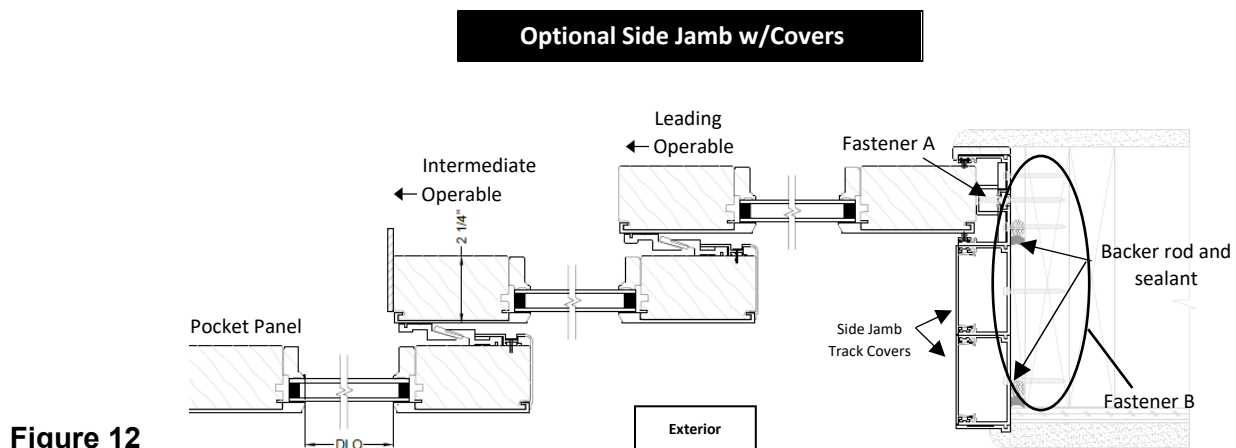

**Figure 10**
- 4.2 Prior to installing the interior side jamb track, apply a 3/8" bead of polyurethane sealant on the sill at the locations indicated for interior side jamb tracks (See Figure 10).